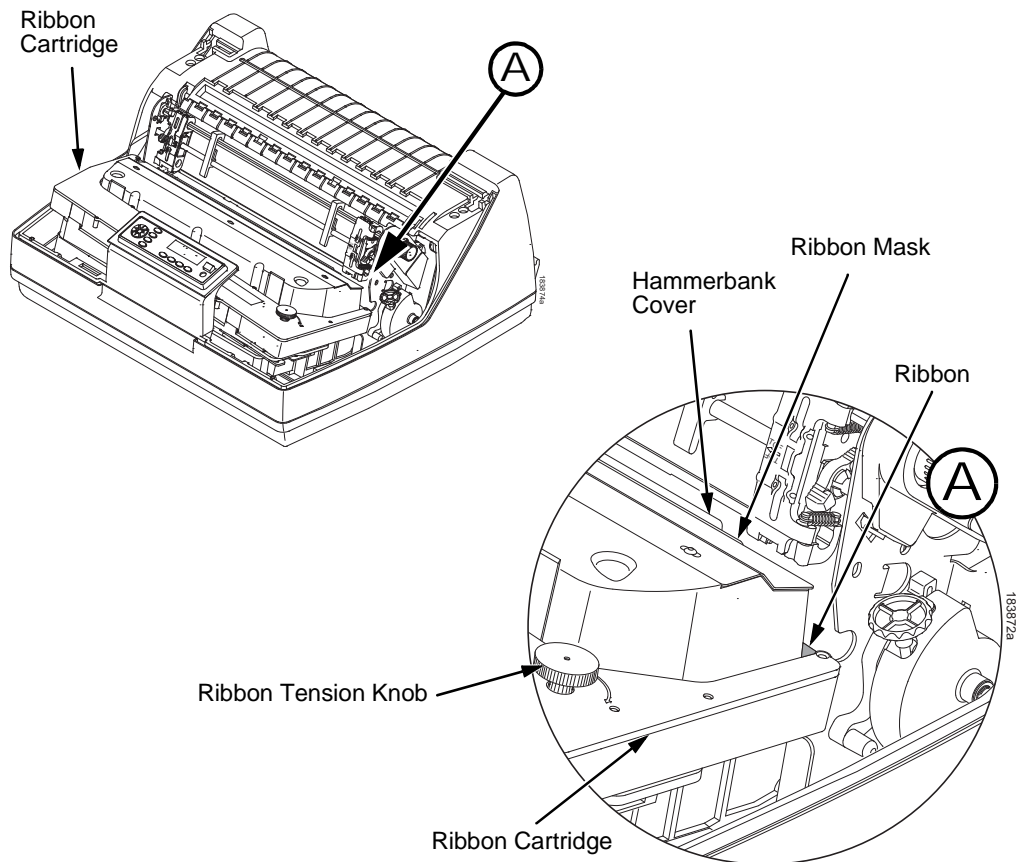

Figure 3. The Ribbon Cartridge Snapped in Place
6. Rock the cartridge downward, making sure that the ribbon goes between the hammerbank cover and the ribbon mask (see Figure 3). You will feel it snap into place.